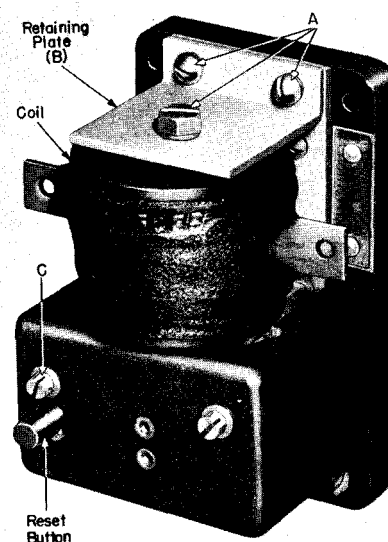

Fig. 1. IC2824-34C thermal induction overload relay
The relay should be installed in the vertical position with the coil at the top as shown in Fig. 1. If the proper coil is used, no adjustment will ordinarily be required. However, if it is desirable to adjust the relay to trip at a slightly higher or lower value of current, remove the three screws (A) in Fig. 1, the retaining plate (B), the coil, the cover screws (C), and the cover. Then loosen the adjustment locking screw. The adjusting screw can be turned to provide the desired adjustment. Tighten the adjustment locking screw and carefully replace the parts removed, taking care that the coil is mounted with the two locating pins on
To replace the coil, remove the three screws (A), Fig. 1, and the retaining plate (B). The coil can then be removed. In replacing the coil be sure that the two locating pins on the lower side engage the corresponding holes on the relay frame, and that the retaining plate rests squarely against the end of the core.